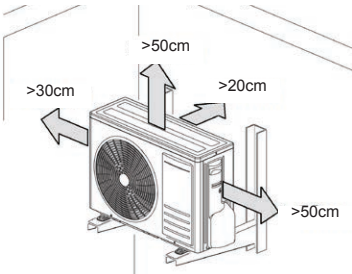
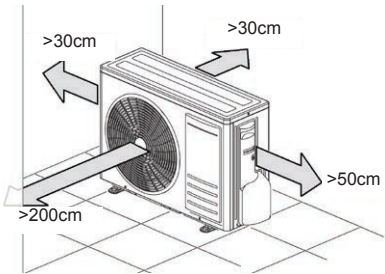

fig. 6 -
fig. 7 -
- Position it respecting the minimum distances from walls, furniture or other objects ("fig. 6 -" e "fig. 7 -").